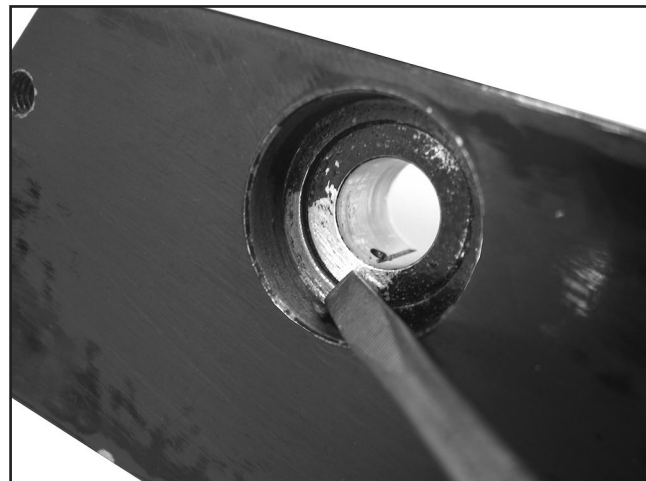

Figure 12. Bushing bore preparation.
17. Using a standard screwdriver, scrape away any paint from the bushing bore (**Figure 12**), so when the power feeder is mounted, the bushing sits properly in the bore without binding.